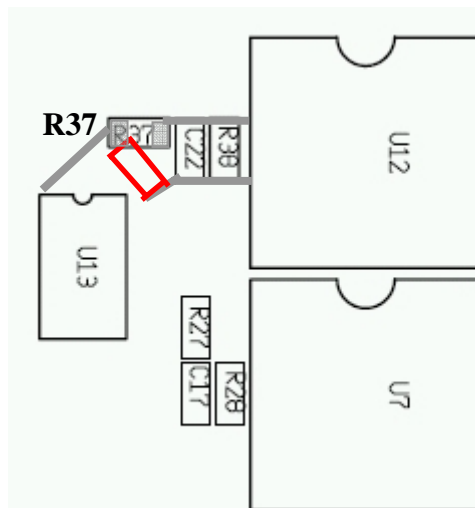

Fig.8. Detailed picture how to solder resistor R37 in diagonal to the opposite end of C22 capacitor.
- R37 = 15k, soldered in diagonal to other end of C22 capacitor, see detail in Fig 8.
Resistor R37 is soldered in new position in diagonal way to the other end of C22 capacitor, see Fig.8 on next page.